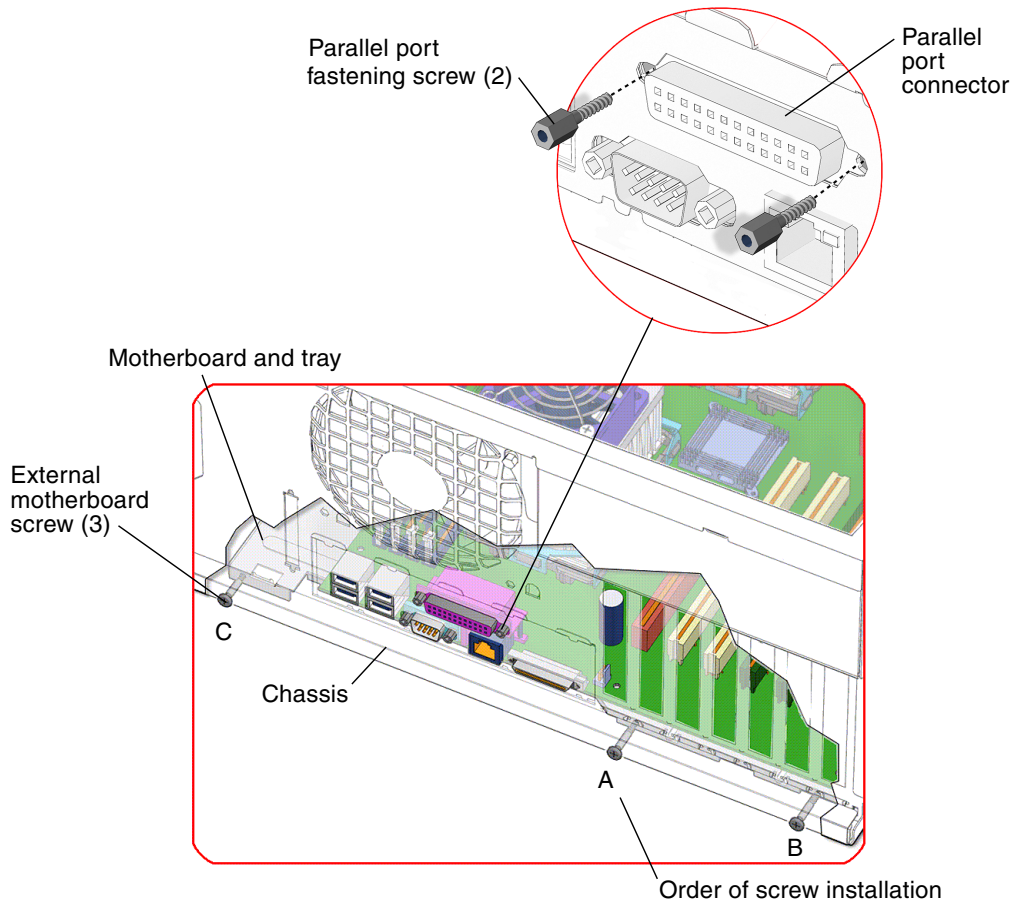

FIGURE 11-41 Installing the External Motherboard and Parallel Port Fastening Screws
7. Fasten the motherboard and tray to the outside of the chassis (FIGURE 11-41).
Note – Observe the fastening screw sequence to prevent any unnecessary strain on the parallel port connector (FIGURE 11-41).